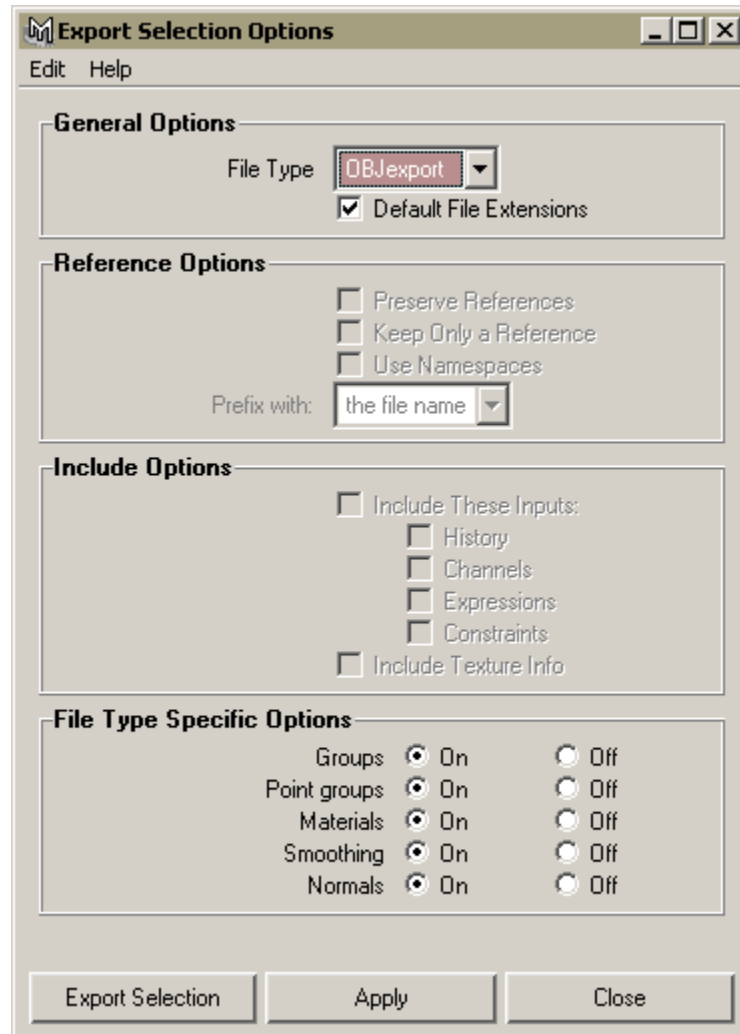

FIGURE 2-8. Maya Export Selections dialog with OBJExport selected and all File Type Specific Options on.
- 3 Select the geometry (bodyGeo) and go to the File > Export Selection Options (Figure 2-8).